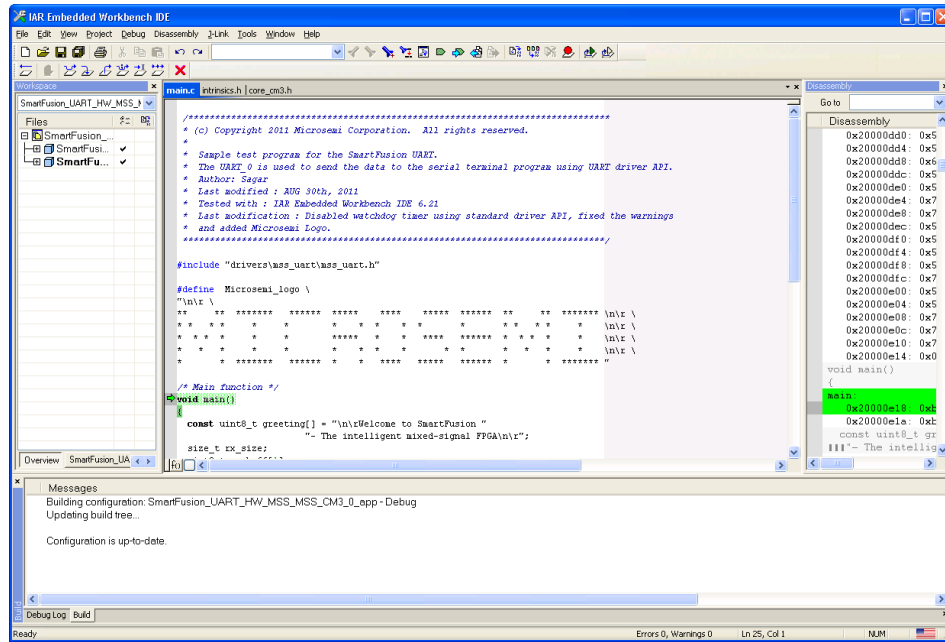

Figure 38 · IAR Workbench After Downloading the Project
3. The Workbench is displayed, as shown in Figure 38 .